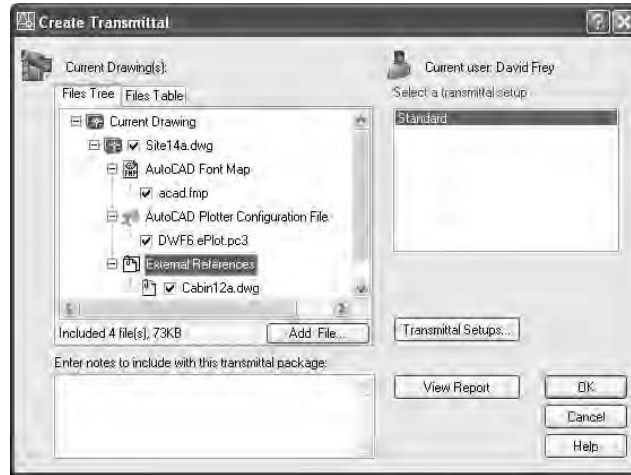

FIGURE BC.8: The Create Transmittal dialog box with the Files Tree tab in front and all the contents visible
2. Choose File > eTransmit to open the Create Transmittal dialog box. Be sure the Files Tree tab is selected in the Current Drawing(s) window, and then click all the + signs in the window to view all the contents of the tree (see Figure BC.8).